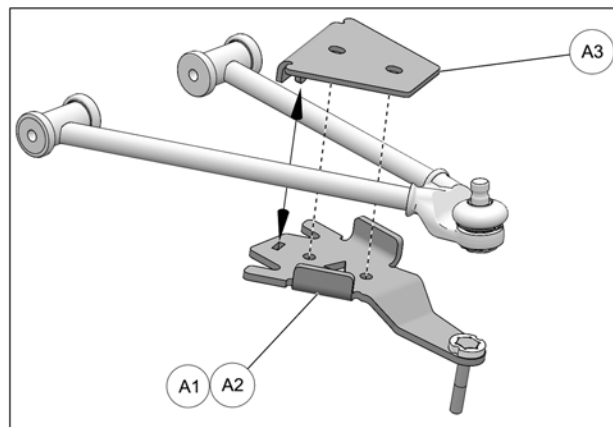

Fig. 16
5. Position bottom part of anchor bracket assembly (A1-A2) under lower suspension arm. Position bracket cover (A3) over suspension arm. Align holes and insert the cover's tenon in the mortise cut in the bottom part. Refer to Fig. 16